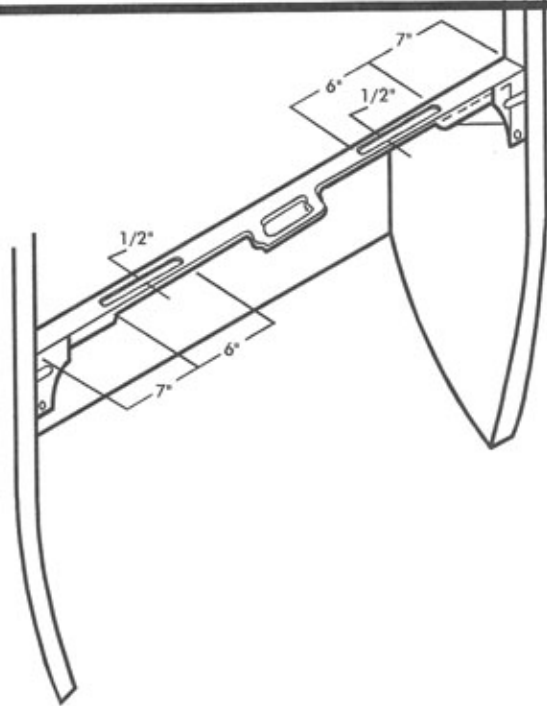

FIGURE 3
- FIGURE 3 SHOWS GENERAL LOCATIONS OF DEFROSTER DUCT HOLES. THE LOCATION OF THESE DUCTS WILL VARY.